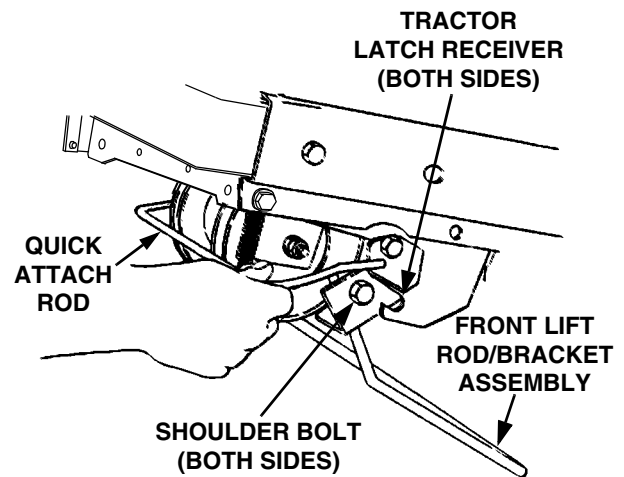

Figure 44
9. From the front of the tractor, push downward and hold the tractor quick-attach rod. Pull the front lift rod/bracket assembly forward to release the shoulder bolts on each side of the bracket from the left and right tractor latch receivers. Release the tractor quick-attach rod (See Figure 44).